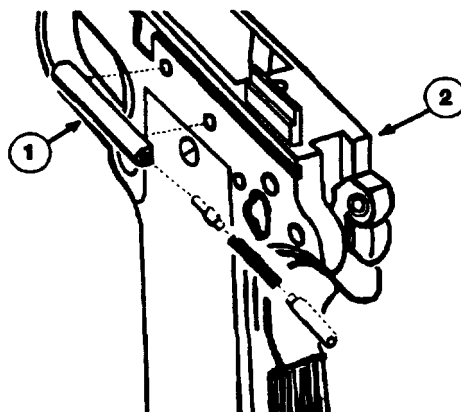

Figure 6-33. Removing And Installing The Plunger Tube
6-16. PLUNGER TUBE (Figures 6-33 and 6-34)a. Disassembly
(5) Using a pair of parallel-jaw pliers, clamp hold of plunger tube (1), Figure 6-33, and wiggle it off receiver assembly (2).
b. Inspection. Inspect plunger tube (1), Figure 6-33, for burrs and deformation. If burred or deformed, replace plunger tube.
(1) If replacement is required, align the tabs on plunger tube with the holes in the receiver assembly, refer to Figure 6-33.